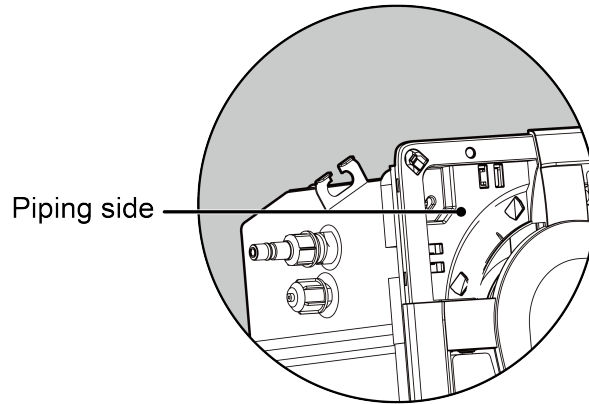

Fig.4.5.4
- (1) Detach the panel's corner cap, there is a mark "piping side" on one of the 4 corners, adjust the panel direction so as to keep the mark and fittings on the same corner, as shown in Fig.4.5.4.